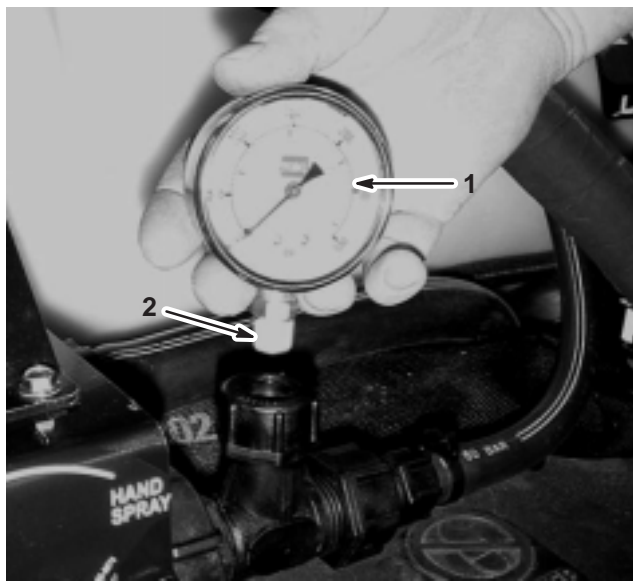

Figure 11
11. Wrap Teflon tape counterclockwise around the threads of the gauge (Fig. 11).
12. Install the pressure gauge into the open port to the right of the control valve (Fig. 11).